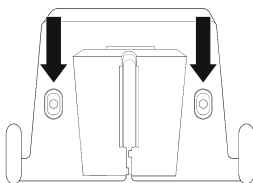
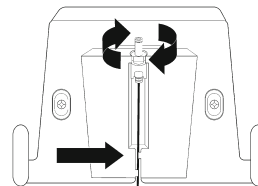

Fig. 1
Fig. 2
2. Mark the correct distance between the holes on the wall (Fig. 1).
3. Only use the screws supplied with the appliance (4).
4. Guide the cable of the mains adapter (5) through the opening (Fig. 2).